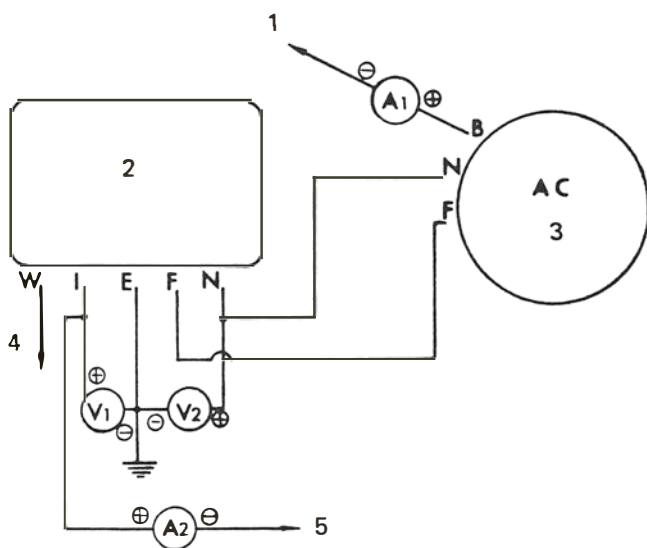

Figure 16
Refer to Figure 16.
1. Connect the voltmeter (V_2), Figure 16, between the terminal N of the regulator and the ground E, and connect the ammeter (A_2) between the terminal I of the regulator and the key starter switch.
3. The charge lamp should go off when the engine rpm is increased. If the charge lamp stays on even when the engine is idling, there may be a defective circuit in the terminal F, Figure 16, between the alternator and voltage regulator.
7. Connect the voltmeter (V_1) between the terminal I and the ground E of the regulator as shown in Figure 16. Connect the ammeter (A_1) between the terminal B and the battery.
1. Connect the voltmeter (V_2) between the terminal N of the regulator and the ground E as shown in Figure 16. Connect the ammeter (A_2) between the terminal I of the regulator and the key starter switch.